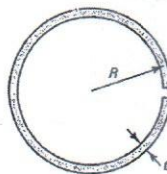

Fig. 3
2. (a) Compare the torsional strength and stiffness of thin-walled tubes of circular cross section of linearly elastic material with and without a longitudinal slot (see Fig. 3). (10)